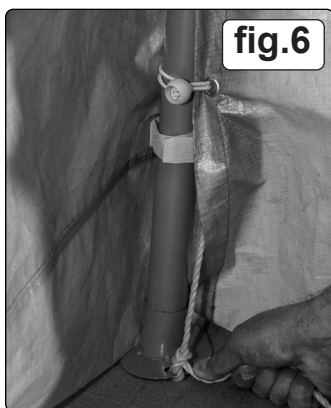

fig.6
- 4.2.7. Tie the ropes, that tension each end of the cover, to the corner feet, see fig.6.